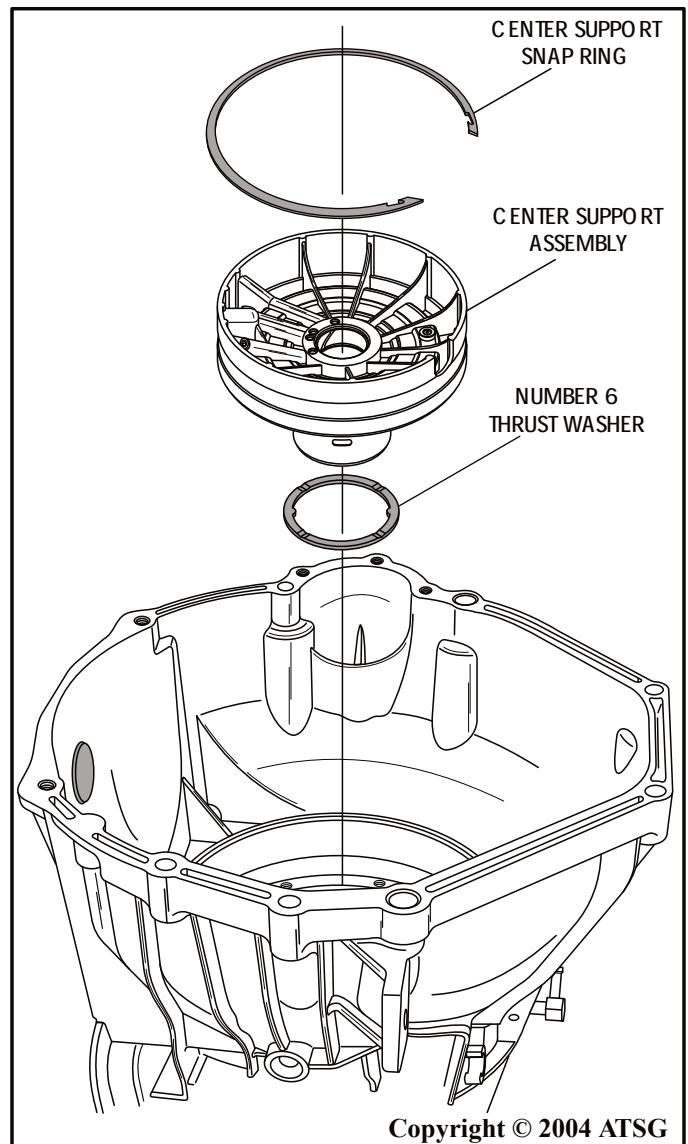

Figure 42
38. Remove the retaining snap ring from the case groove and remove the center support assembly from case, as shown in Figure 42.